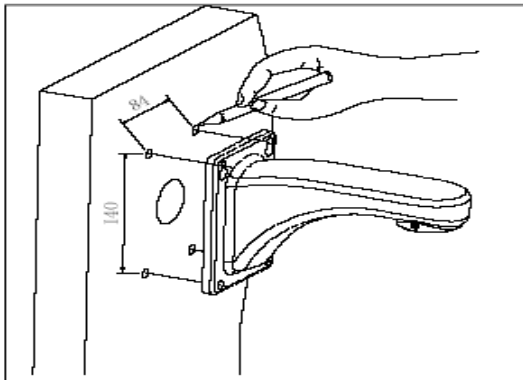

Fig 2.1
a. As shown in fig 2.1, use the wall mount bracket as a template to mark the fixing points on the wall and drill accordingly (you will also require a larger, 5th hole for the Coax, RS-485 & 12VDC cables).